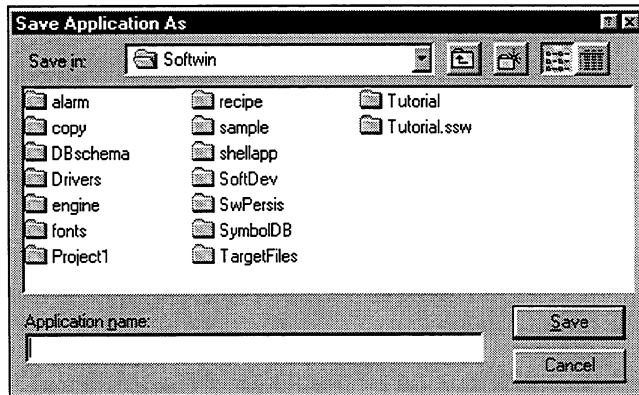

Figure 4-3. Save Application As Dialog Box
7. Select the Save As command on the File menu. The Save Application As dialog box opens, as shown in Figure 4-3. These steps will save Shellapp as a new application.